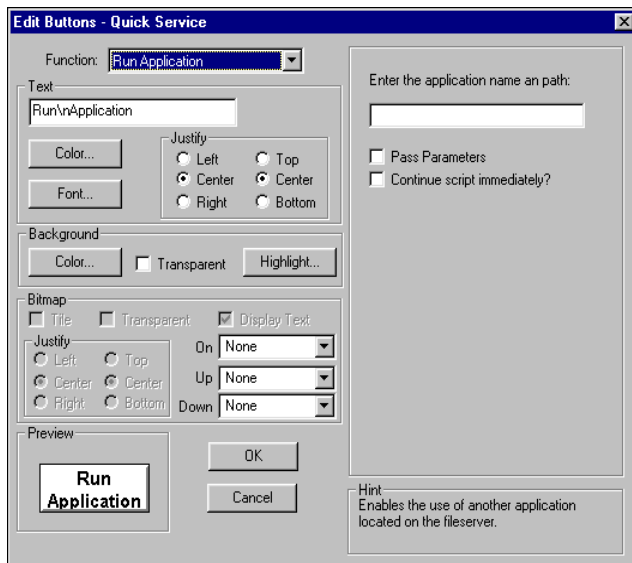

Figure 5-102 Run Application Button Function
1. Select **Run Application** from the **Function** drop-down list. Additional options display, as shown in Figure 5-102: